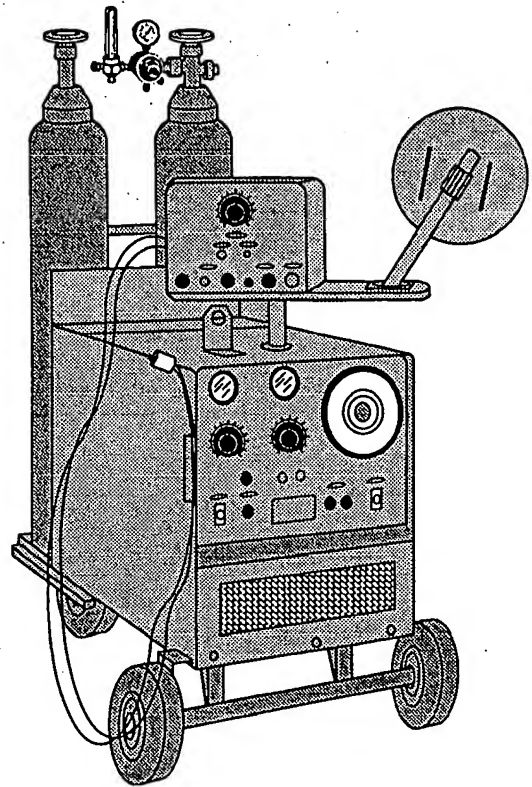

Figure 8-25.—Constant voltage (CV) power unit.
A *constant voltage* (CV) power source was developed to overcome the inconsistent voltage characteristics of a conventional welding machine, (See fig. 8-25). It can be either a dc rectifier or motor generator that supplies current with normal limits of 200 to 250 amperes.